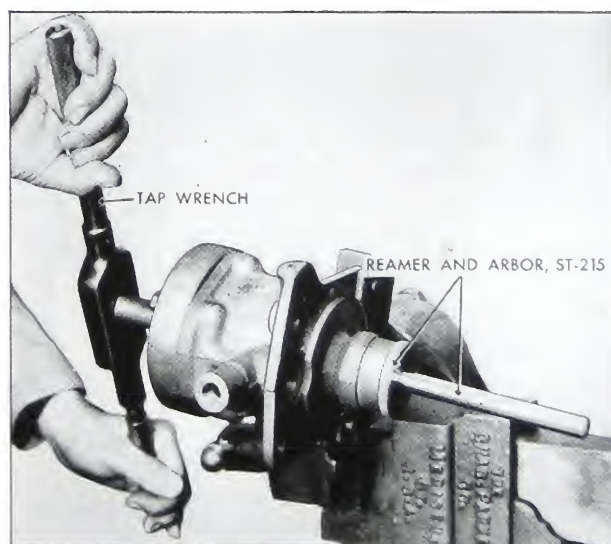

Fig. 5-72. Reaming thrust bearing
4. Locate the special piloted reamer, ST-215, as shown in Figure 5-72 and ream the shaft hole in the distributor shaft bushing to .812/.813. Both pilots must be used to insure alignment.